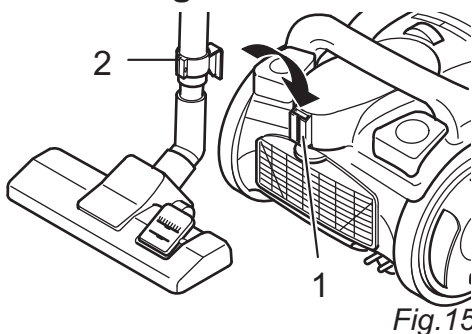

Fig. 15
■ For **storage** or during work breaks, you can use the parking hook mount (Fig. 15/1) to hook the parking hook (Fig. 15/2) onto the floor nozzle (Fig. 15).